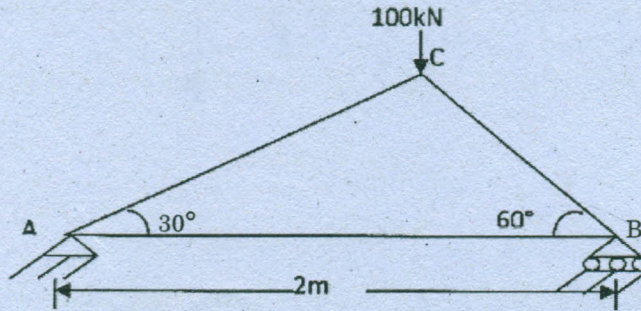

Fig. 1
11. (a) Determine the vertical and horizontal deflection of components of joint C of the truss in Fig. 1. Take $E = 200 \times 10^6 \text{ kN/m}^2$ and the sectional area of each bar $A = 100 \times 10^{-6} \text{ m}^2$ using the principle virtual work.